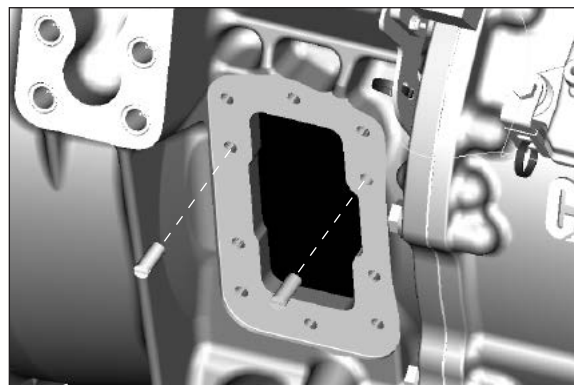

Fig. 30
3. Using a screwdriver, install the guide pins until they bottom out (**Fig. 30**) (see Page 37).